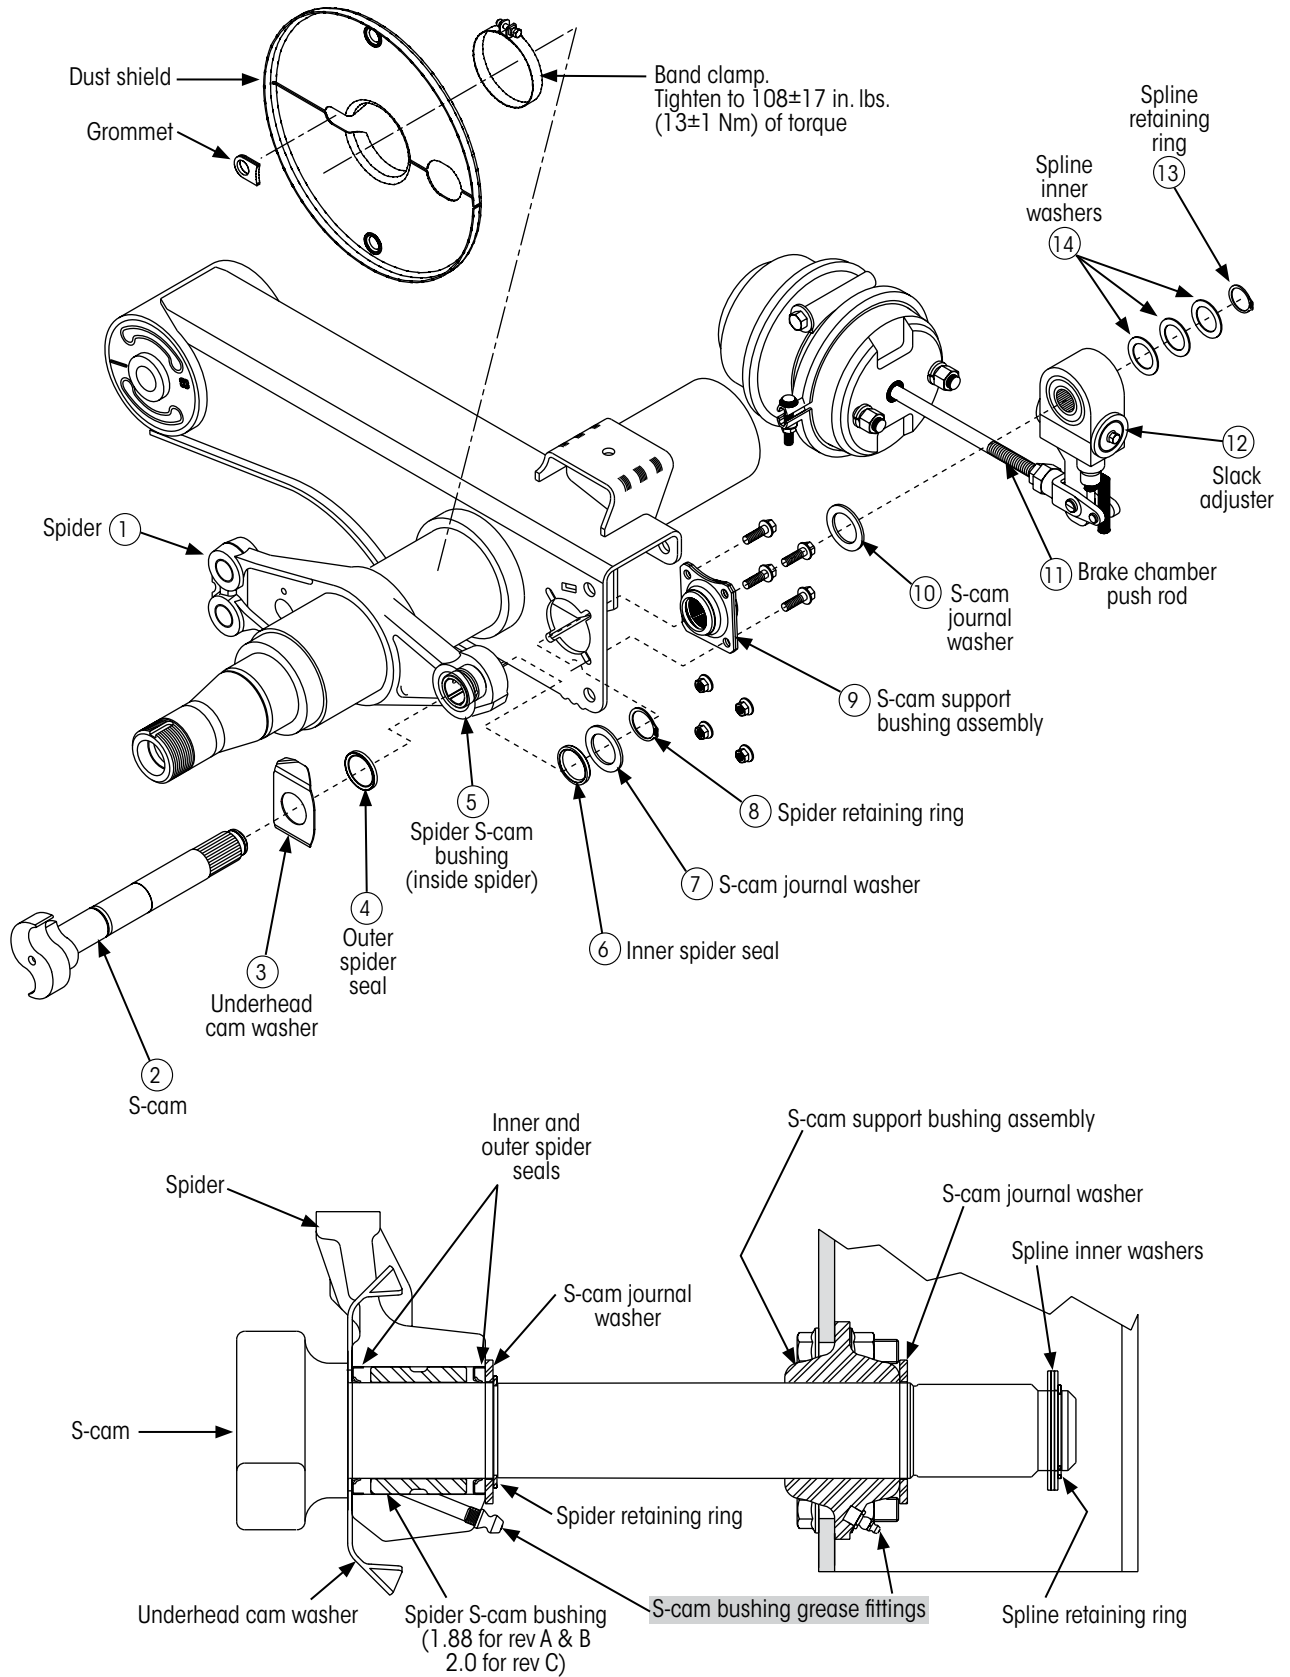
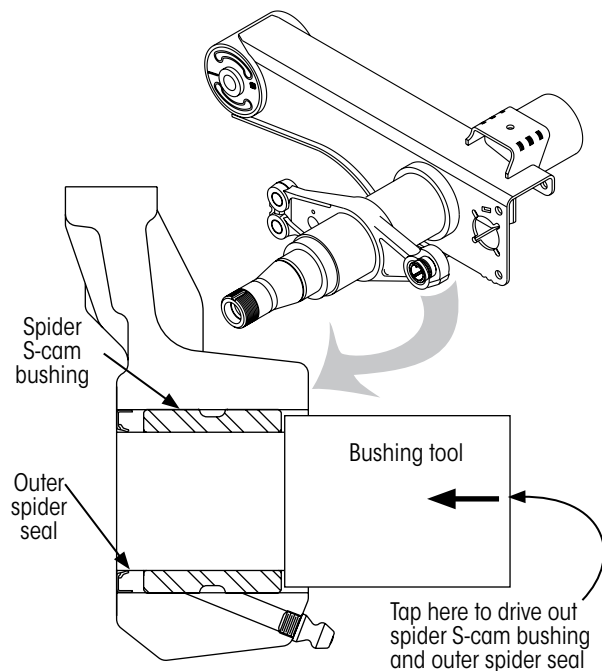

Figure 6: AA230T revision levels A, B and C parts identification
Figure 7: Spider S-cam bushing and outer seal removal
Refer to Figure 6 on page 9 for parts identification.
2. Using retaining ring pliers, **remove** the spline retaining ring (item 13, Figure 6 on page 9).
3. **Remove** the spline inner washers (item 14, Figure 6 on page 9).
4. **Disconnect** the brake chamber push rod (item 11, Figure 6 on page 9) from the slack adjuster (item 12, Figure 6 on page 9) by removing the cotter pin(s) and clevis pin(s) from the slack adjuster clevis. **DO NOT** adjust or remove the push rod jam nut at this time.
7. **Remove** the S-cam journal washer (item 10, Figure 6 on page 9).
9. **Support** the S-cam to remove tension from the spider retaining ring. Using retaining ring pliers, **spread open** the spider retaining ring (item 8, Figure 6 on page 9) and **remove** it from the groove in the S-cam (item 2, Figure 6 on page 9).
10. **Partially remove** the S-cam by pulling on the S-cam head. **Pull** the S-cam far enough out of the S-cam support bushing (item 9, Figure 6 on page 9) so the spider retaining ring (item 8, Figure 6 on page 9) and the S-cam journal washer (item 7, Figure 6 on page 9) can be slid off the spline end of the S-cam. When the spider retaining ring and the S-cam journal washer are removed, finish removing the S-cam and the underhead cam washer (item 3, Figure 6 on page 9).
11. **Loosen and remove** the four bolts that secure the S-cam support bushing assembly (item 9, Figure 6 on page 9) to the suspension beam.
13. Using a small screwdriver, **carefully remove** the inner spider seal (item 6, Figure 6 on page 9) from the spider.
14. Using a bushing tool (Figure 7 on page 10) or seal driver, **tap** the spider S-cam bushing (item 5, Figure 6 on page 9) and outer spider seal (item 4, Figure 6 on page 9) out of the spider bore.
4. **Lightly coat** the inside diameter of a new S-cam support bushing (item 9, Figure 6 on page 9) with fresh grease (EP NLGI #2 grease).
5. **Install** the new S-cam support bushing assembly (item 9, Figure 6 on page 9) with four new attaching nuts and bolts. Only **hand tighten** the four attaching nuts and bolts at this time.
8. Install new inner and outer spider grease seals (items 4 and 6, Figure 6 on page 9) on each side of the spider S-cam bushing.
1. Slide the underhead cam washer on as shown in Figure 6 on page 9, onto the new S-cam until it contacts the S-cam head.
2. Install the new S-cam (splines first) through the spider S-cam bushing. Stop before the splines reach the S-cam support bushing assembly (item 9, Figure 6 on page 9) so the S-cam journal washer (item 7, Figure 6 on page 9) and the spider retaining ring (item 8, Figure 6 on page 9) can be installed on the end of the S-cam.
3. Slide the S-cam journal washer (item 7, Figure 6 on page 9) onto the S-cam and seat it against the spider.
4. Using retaining ring pliers, hold open the spider retaining ring (item 8, Figure 6 on page 9) and slide it on the end of the S-cam.
5. Push the S-cam all the way through the S-cam support bushing (item 9, Figure 6 on page 9) until it stops against the spider.
6. Lock the spider retaining ring (item 8, Figure 6 on page 9) into the groove on the S-cam.
9. Install the S-cam journal washer (item 10, Figure 6 on page 9).
11. Refer to INSTALLING SLACK ADJUSTER ON S-CAM on page 27 to install the slack adjuster (item 12, Figure 6 on page 9). Refer to Figure 6 on page 9 for locating spline inner washer (item 14, Figure 6 on page 9) and spline retaining ring (item 13, Figure 6 on page 9).
Lubricate the spider S-cam and S-cam support bushing (items 5 and 9, Figure 6 on page 9) grease fittings monthly. Use EP NLGI #2 grease. Refer to L578 Preventative Maintenance Guide for more details.
6. Remove the S-cam journal washer (item 10, Figure 6 on page 9).
1. Support the S-cam to remove tension from the spider retaining ring. Using retaining ring pliers, carefully **spread open** the spider retaining ring (item 8, Figure 6 on page 9) and **remove** it from the groove in the S-cam (item 2, Figure 6 on page 9).
2. **Partially remove** the S-cam by pulling on the S-cam head. Pull the S-cam far enough out of the S-cam support bushing (item 9, Figure 6 on page 9) so the spider retaining ring (item 8, Figure 6 on page 9) and the S-cam journal washer (item 7, Figure 6 on page 9) can be slid off the spline end of the S-cam.
3. **Loosen** and remove the four bolts that secure the S-cam support bushing assembly (item 9, Figure 6 on page 9) to the suspension beam.